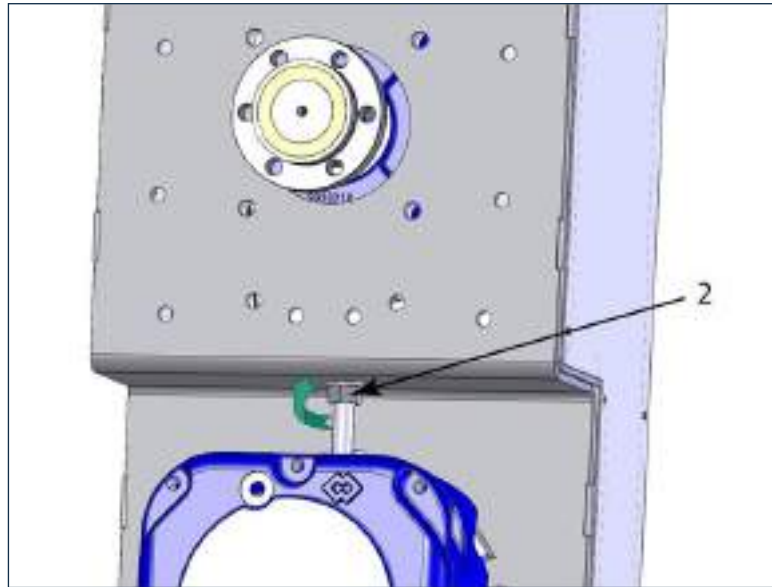

Fig. 4
- adjust the chain tension and tighten the bolts (fig.4) according to the provided tighten torque.